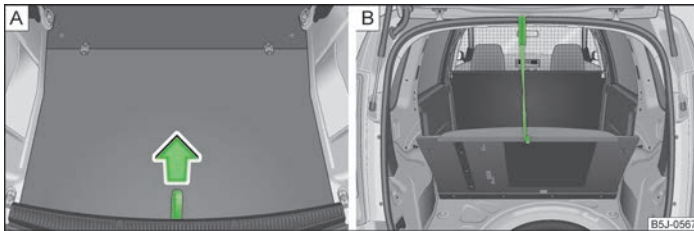

Fig. 156 Loop for raising the loading floor/Fixing the loading floor with a plastic hook
- Raise the loading floor at the loop » Fig. 156 - [A] and fix it with a plastic hook (it is located below the loading floor edge) to the top edge of the tailgate cutout » Fig. 156 - [B].